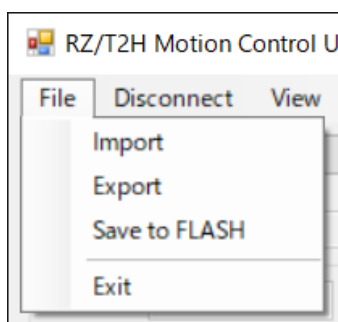

Figure 4-3 "File" Menu
- (9) Select "Import" from the "File" menu (Figure 4-3) to import the unzipped Motor Parameter (./default.mtr).
- (10) Select "Save to FLASH" from the "File" menu (Figure 4-3) to save the imported Motor Parameter to the serial flash memory.
- (20) Select "Exit" from the "File" menu (Figure 4-3) or press the "Close" button to close the RZ/T2H Motion Control Utility.